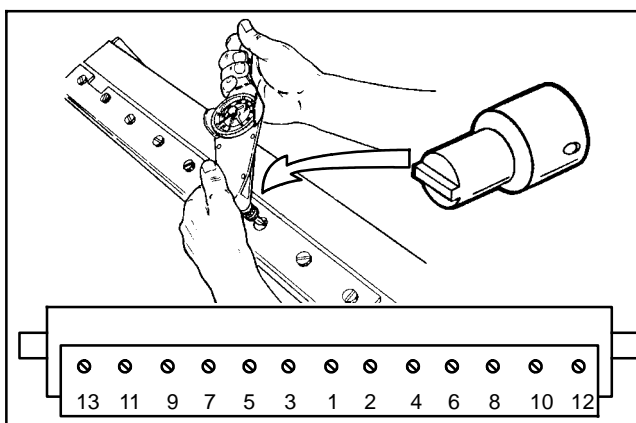

Figure 34
3. Using a torque wrench and bedknife screw tool, tighten screws to a torque of 200 to 250 in-lb (230 to 288 kg-cm). Use a torquing pattern working from the center toward each end of the bedknife (Fig. 34).